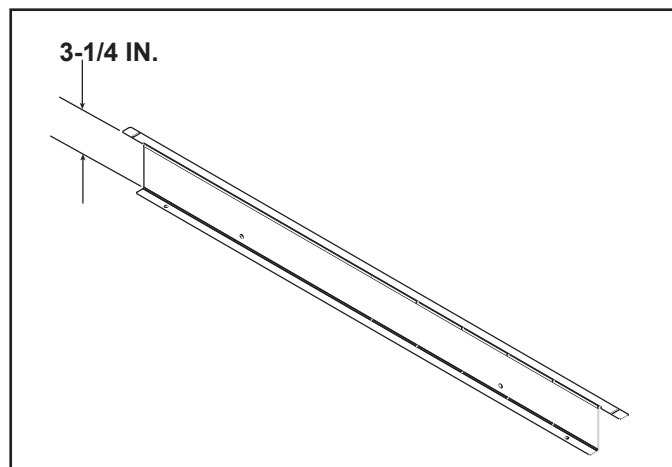

Figure 10.3 Top Finishing Template Bend - LMOD Decorative Fronts
4. Bend the top template as shown in Figure 10.3 and secure with the two screws provided.